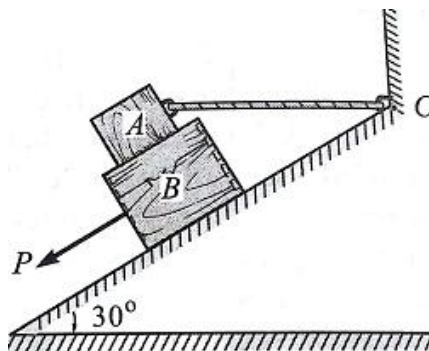

Fig.10
7. Block A of mass 30 kg rests on block B of mass 40 kg as shown in Fig.10. Block A is restrained from moving by a horizontal rope tied at point C, what force P applied to the plane inclined at  $30^\circ$  with horizontal is necessary to start block B down the plane. Take coefficient of friction for all surfaces as 0.35. [L1][12 M]